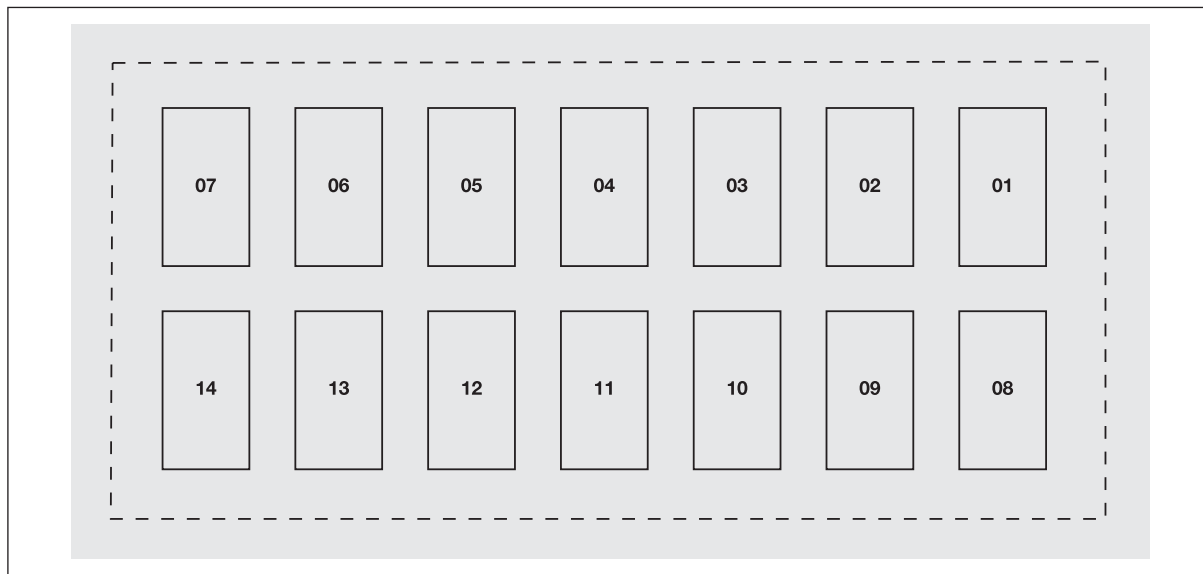

fig. 157
### Dashboard fuse box fig. 157
**FUSE SUMMARY TABLE****Dashboard fuse box fig. 157**